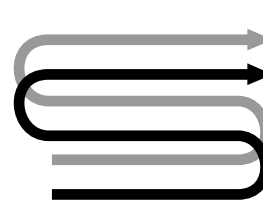
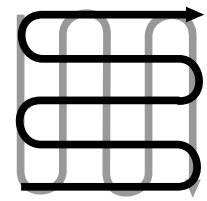

Fig. 4-6
Fig. 4-7
- When preparing a seedbed, go over the same path twice in the first row, then overlap one-half the tiller width on the rest of the passes (see Fig. 4-6). When finished in one direction, make a second pass at a right angle, as shown in Fig. 4-7. Overlap each pass for best results (in very hard ground, it may take three or four passes to thoroughly pulverize the soil.)